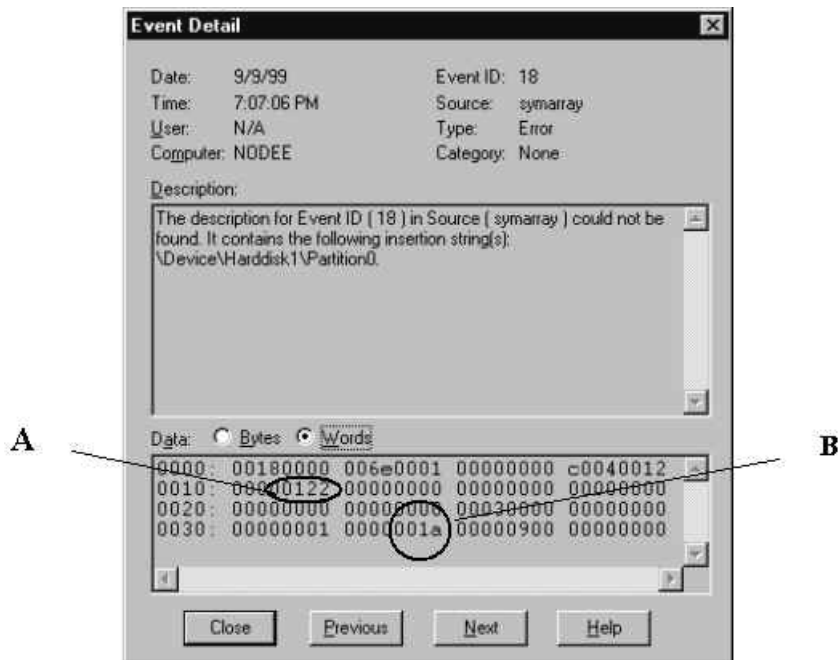

Figure 6. Event detail
2. Select the **Words** radio button to convert the bottom text from bytes to words. See Figure 6.